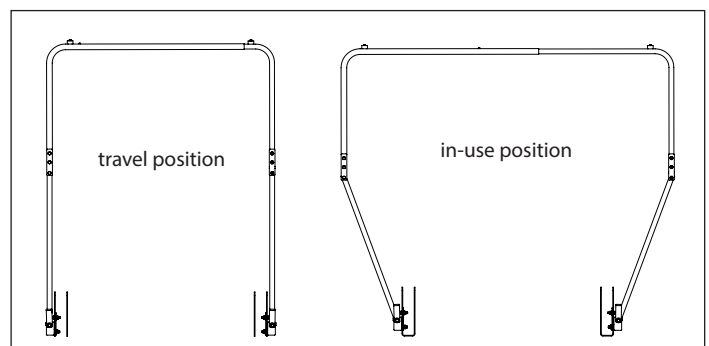

**FIGURE 6**
9. Locate the (6) pole caps (68060) and the (3) frame support poles (15519). Attach (1) pole cap to both end of each support pole by pushing the cap over the pole ends. Align the hole in the pole cap with the hole in the support pole to ensure a correct assembly. **SEE FIGURE 6**